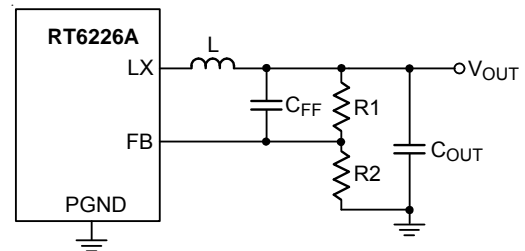
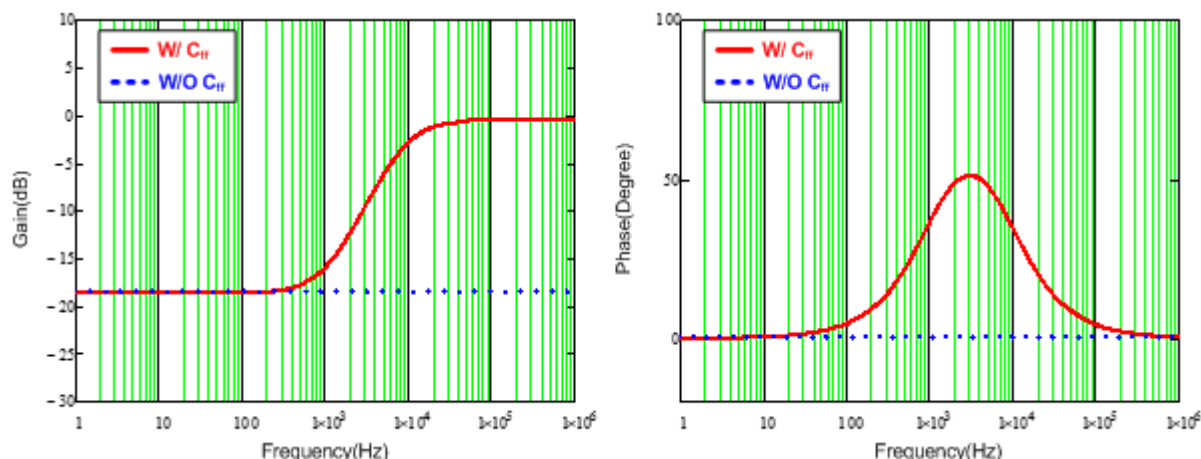

Figure 6. Feedback Loop with Feedforward Capacitor.
Figure 7. Bode Plot with Different Feedback Loop Conditions
For saving time to design compensator and reducing the layout area through external components, the components of compensator are integrated in IC. However, this integrated compensator might not suit to every load transient spec. Hence, for the RT6226A to be more adaptable, the feedforward capacitor CFF is used in the feedback loop to improve transient response, as shown in Figure 6. Figure 7 shows the comparison result of bode plot with different feedback loop conditions. Referring to Figure 7, through connecting a CFF in feedback network, the gain and phase are raised in mid-frequency that not only can extend the bandwidth, but boost the phase margin as well. Moreover, there is also a high frequency pole to eliminate high frequency noise. Consequently, those features of feedforward feedback network allow the RT6228A have faster response to handle different load transient.
Observing Figure 7, the maximum phase boost occurs between zero and pole frequencies that is defined as maximum phase boost frequency, as expressed in equation (4). Hence, in order to achieve the maximum phase boost by adding  $C_{FF}$  in the RT6226A, the system's original bandwidth has to be located at maximum phase boost frequency.